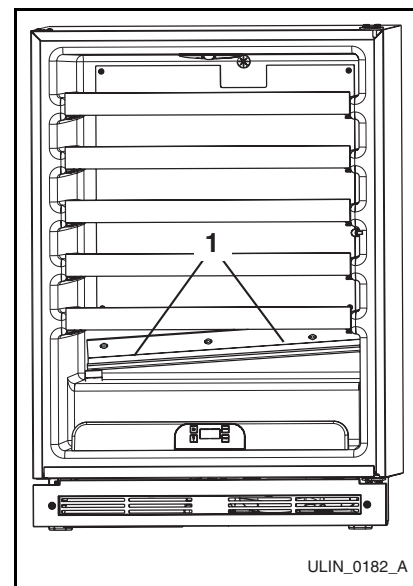

Figure 9
**The drain pan was not designed to capture the water created when manually defrosting. To prevent water from overflowing the drain pan, place towels or other absorbent materials over the interior drain trough, under the evaporator (Figure 9, 1), before defrosting.**